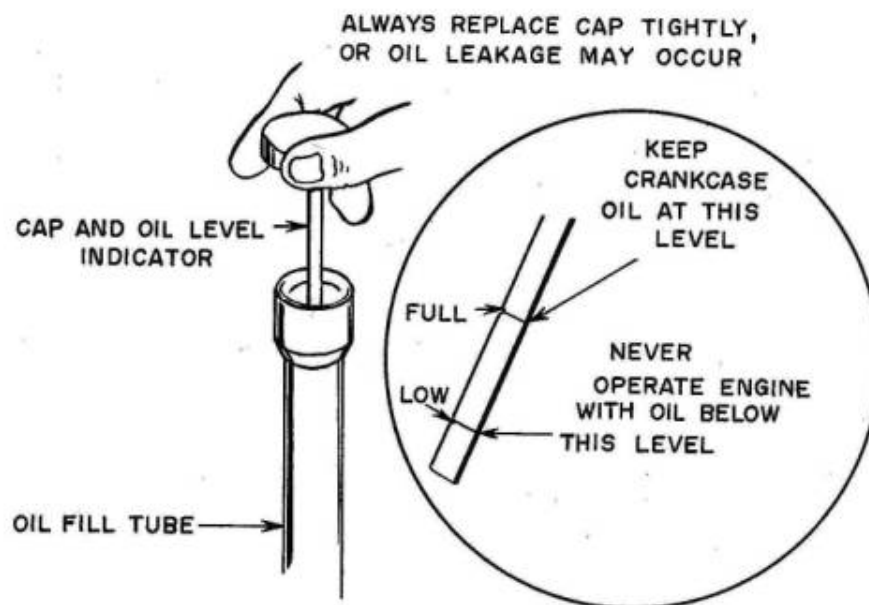

FIG 44 - CHECKING OIL LEVEL
- (b) Check oil level, as shown in Fig 44, and add oil if required in accordance with Table 15. The oil filler cap is shown in Fig 37.
- (g) Check the oil level after every eight hours of operation. Refer to Fig 44.